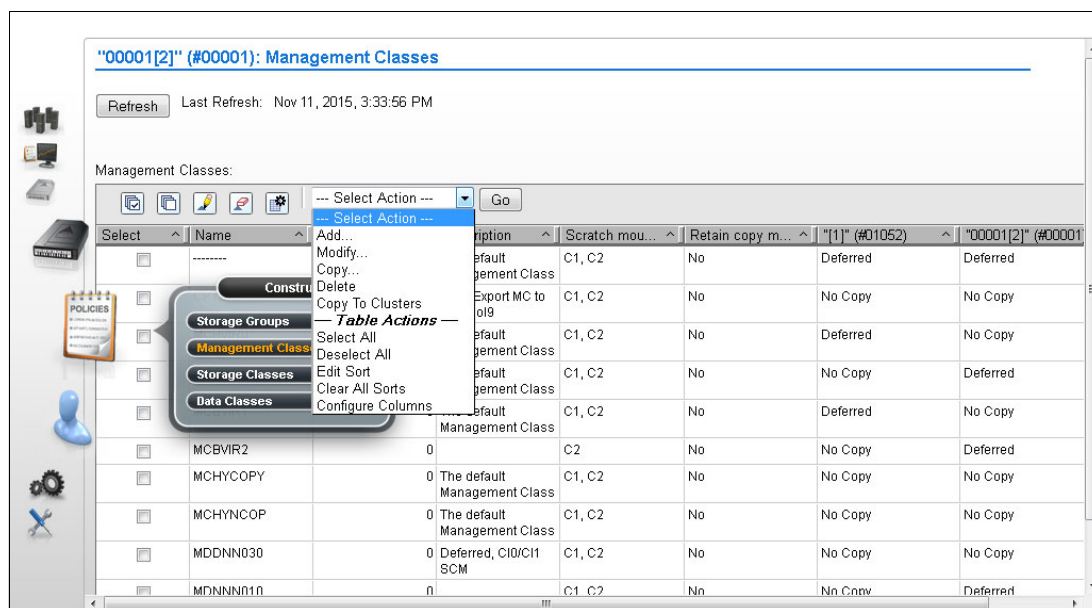

Figure 10-8 MI Management Classes window on a grid
Use this window to define, modify, copy, or delete the MC that defines the TS7700 copy policy for volume redundancy (see Figure 10-8). The table displays the copy policy that is in effect for each component of the grid.
1. Select **Add** from the Management Class menu that is shown in Figure 10-8 on page 482 and click **Go**.